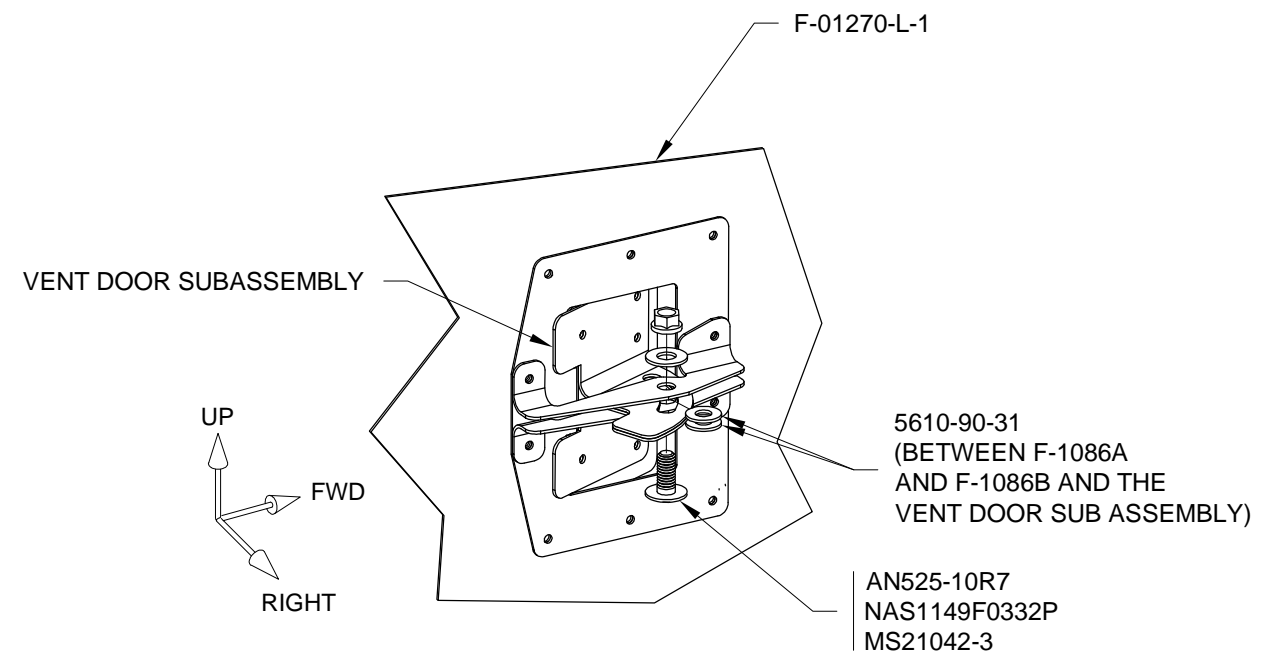

FIGURE 5: INSTALLING THE VENT DOOR SUBASSEMBLY
Step 7: Install the Vent Door Subassembly as shown in Figure 5.